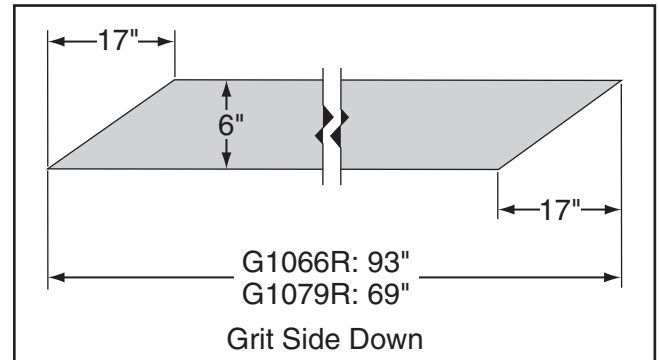

Figure 28. Sandpaper pattern (G1066R/G1079R).
4. Unwind old sandpaper and use it as a pattern (or use pattern in Figure 28) to cut a piece of 6" wide sandpaper of desired grit. It is necessary to cut away a triangular portion of sandpaper at each end.